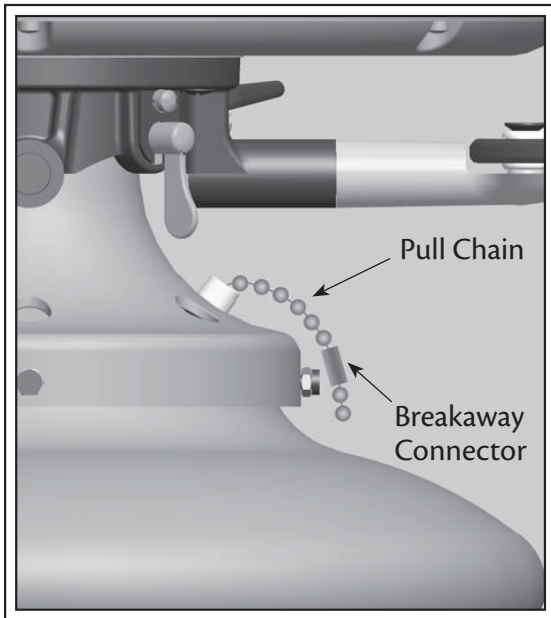

Fig. 18
- The chain uses a breakaway connector that separates if the chain is jerked. If this happens, simply reinsert the chain into the connector (see Fig. 18).